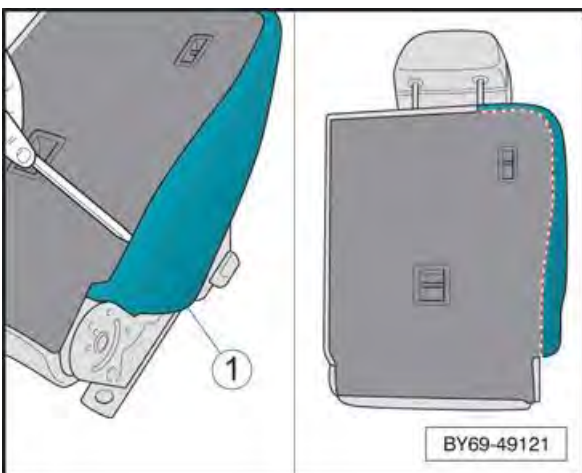

Figure 37
2. Using a suitable trim tool, release the outer and upper clipped edges –dotted line- of the seat cover - 1 - from the seat squab frame (see Figure 37)